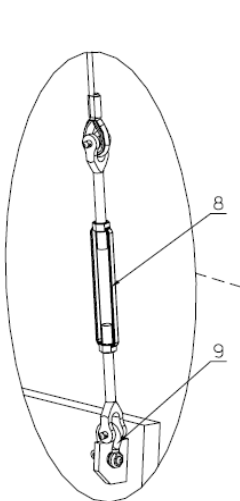

Figure 5.3
4. Attach the other end of the cables each to a turnbuckle. (Figure 5.3)
5. Rest the cable alongside the gin pole. Each turnbuckle will eventually need to be attached to the baseplate with a 5/8 shackle. (Shown in figure 5.3)